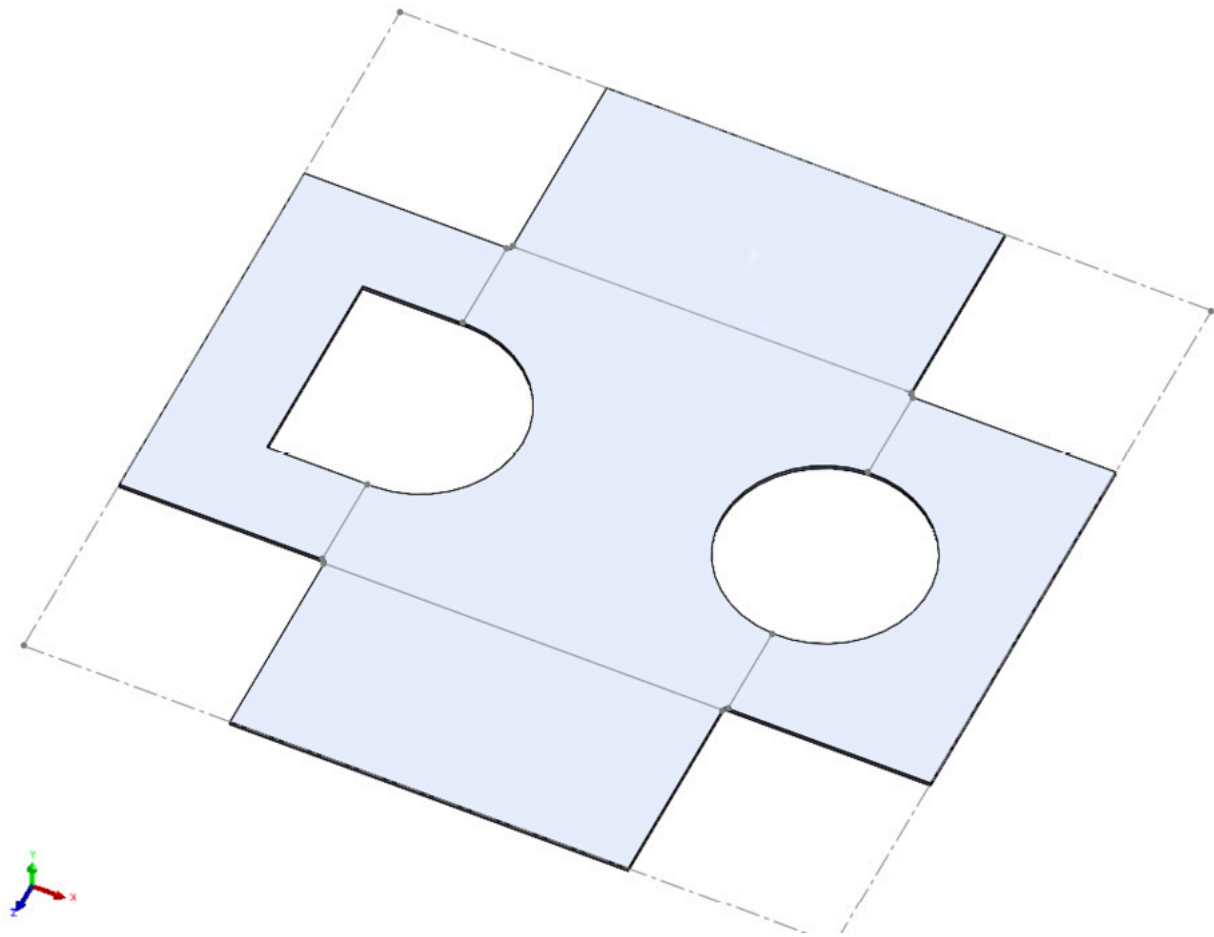

Figure 5.10: The flattened part, with both cuts
8. Furthermore, if we now flatten the *part*, as illustrated in *Figure 5.10* we can see that the first cut (on the unfolded model) is completely circular, whereas the second one has two square corners. The first circle would be fairly simple to cut using a drill, but the second one would be much harder without a computer-controlled machine like a laser cutter. Therefore, the first cut might be more desirable, depending exactly on your production processes: